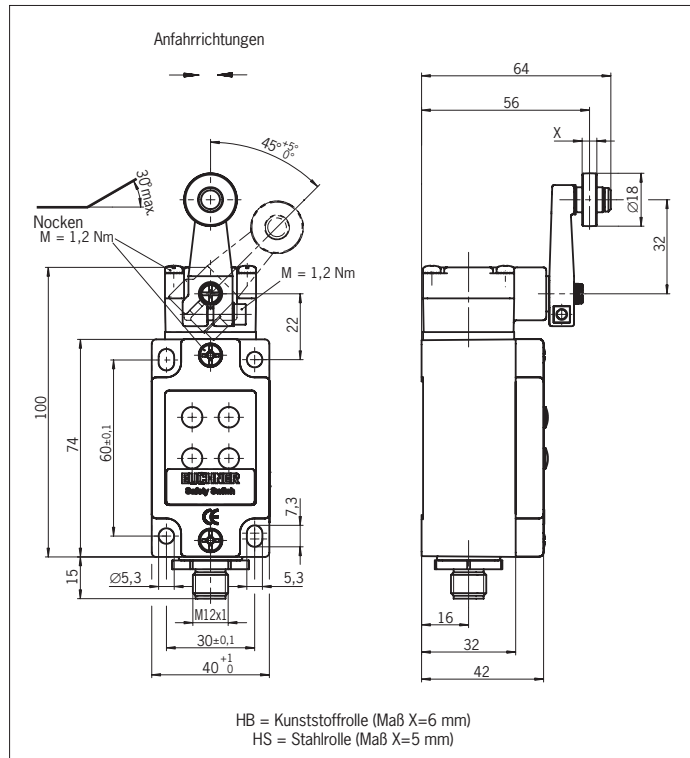
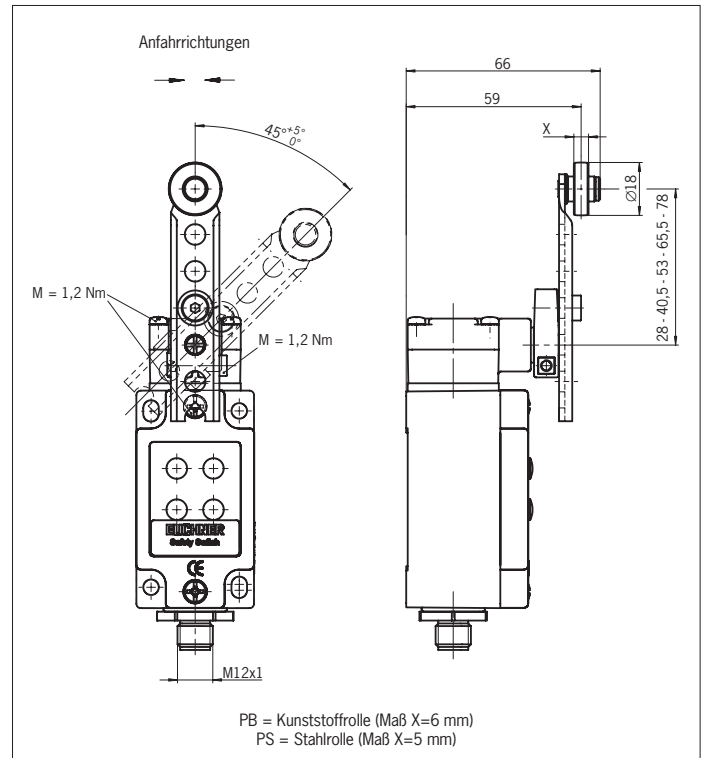

Bild 7: Maßzeichnung NZ1H...AS1
Bild 8: Maßzeichnung NZ1P...AS1
- ▶ To ensure correct operation, the trip dogs must be fitted so that the actuator is deflected by at least an angle of $45^{\circ} \pm 5^{\circ}$ (achievement of the stipulated contact opening, see Figure 7 and Figure 8).